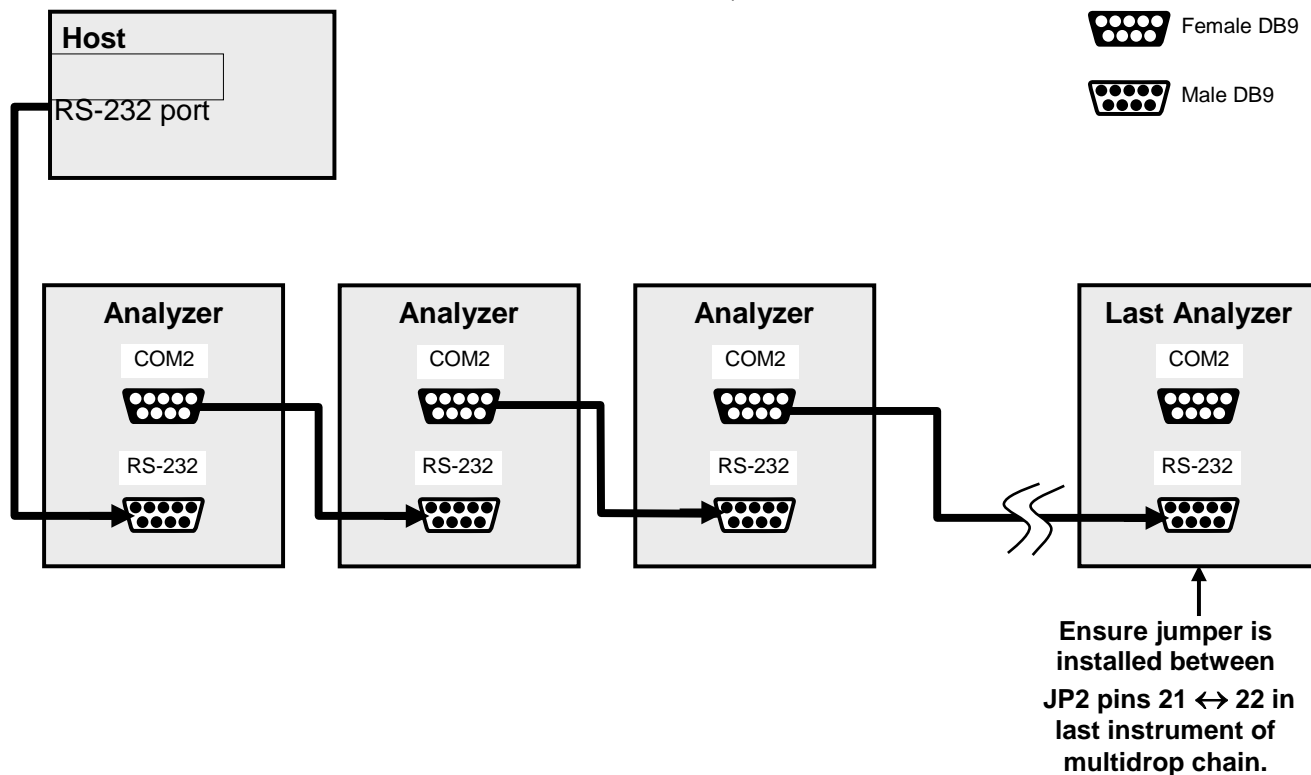

Figure 3-20: RS-232-Multidrop PCA Host/Analyzer Interconnect Diagram
5. Referring to Figure 3-20, use straight-through DB9 male > DB9 female cables to interconnect the host RS232 port to the first analyzer's RS232 port; then, from the first analyzer's COM2 port to the second analyzer's RS232 port, and from the second analyzer's COM2 port to the third analyzer's RS232 port, etc., connecting in this fashion up to eight analyzers, subject to the distance limitations of the RS-232 standard.